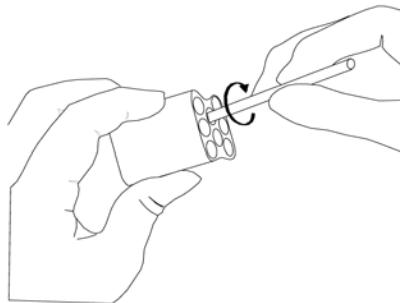

Figure F.1.3b: Re-lubricating 1250 - 250 $\mu$ l Pipettes
- 1250  $\mu$ l and 250  $\mu$ l Pipettes: Use the wooden applicator and O-ring lubricant supplied in the Preventive Maintenance/Autoclave Kit to apply a thin layer of lubricant approximately 0.5 inches (*approx. 1.3 cm*) down into each piston hole that requires it. Spread the lubricant evenly along the inner wall of each cylinder by using a circular motion with the wooden applicator (see *Figure F.1.3b*).